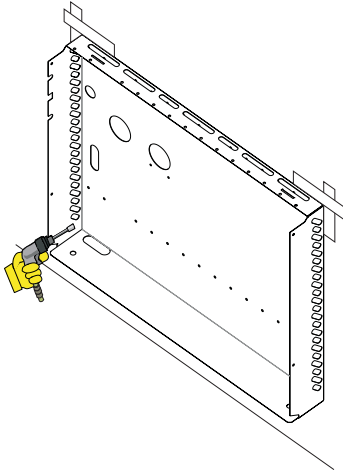

Figure 3
- After creating your venting holes (see wall furnace installation instructions), secure the wall mount shroud to the wall studs using four #10 x 1 1/4" screws provided with the wall furnace. Heavier field supplied lag screws may be used if desired. See Figure 3. Verify the shroud is level.